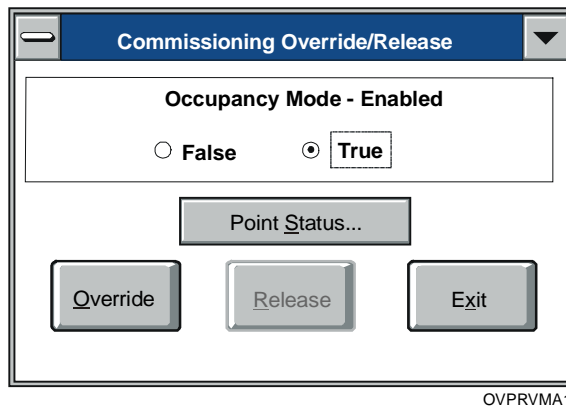
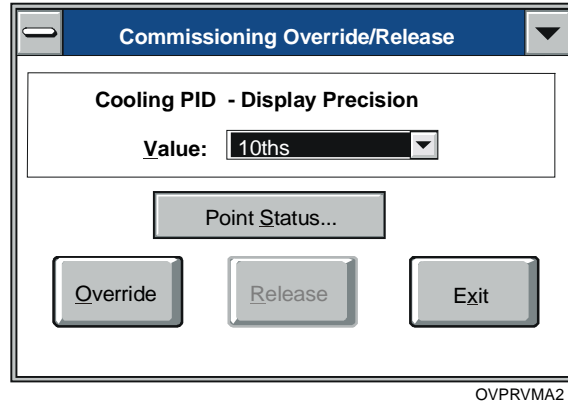
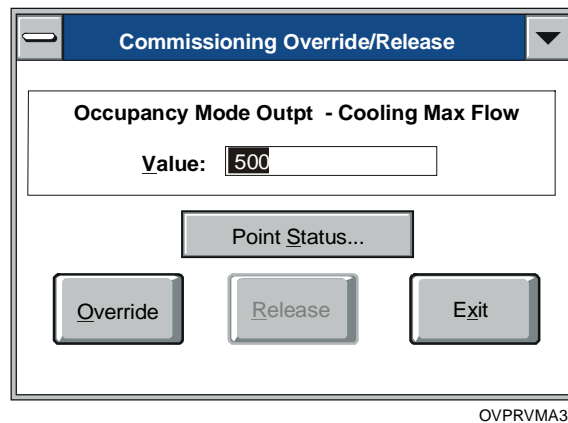

Figure 9-15: Boolean Parameter Override/Release Dialog Box
Figure 9-16: Multistate Parameter Override/Release Dialog Box
Figure 9-17: Single State Parameter Override/Release Dialog Box
1. Double-click on the parameter you want to change. The Commissioning Override/Release dialog box displays. The parameter value displays and is modified differently based on its data type. Figure 9-15, Figure 9-16, and Figure 9-17 show the Override/Release dialog boxes for Boolean, Multistate, and Single State parameters.